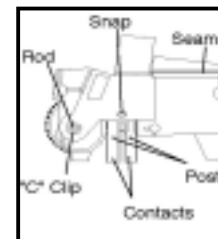

Figure 2
2. Remove rod from unit (left side Fig. 2).
4. Unfasten corona assembly and handle cover by unfastening two contacts and two snap clips (Fig. 2).